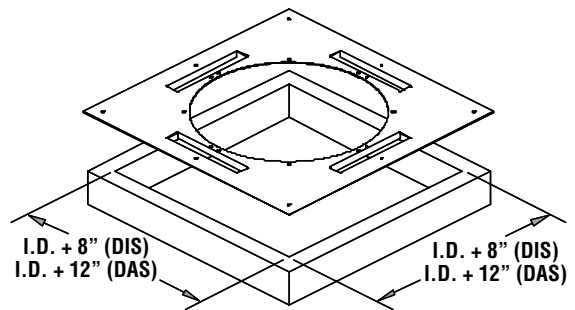

Figure 25 - Ventilated anchor plate (APV)
4. See **Figure 25** for opening dimensions through combustible construction.